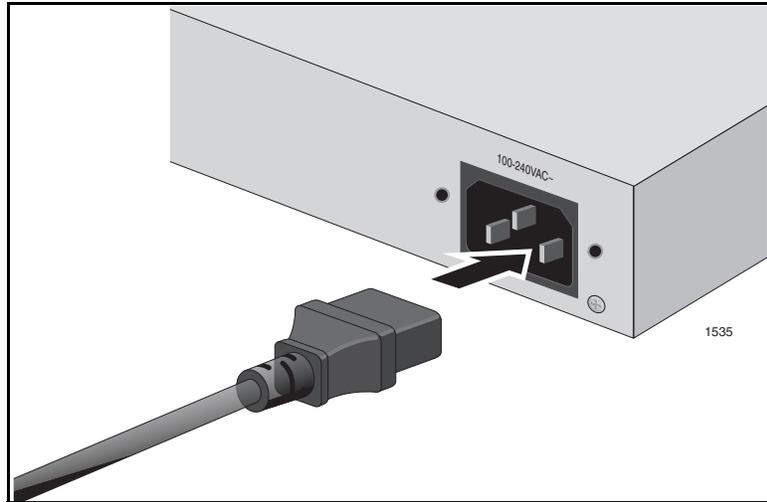

Figure 15. Connecting the AC Power Connector to Switch
2. Apply AC power to the switch by plugging the power cord into the AC power connector on the back panel of the unit, as shown in Figure 15.